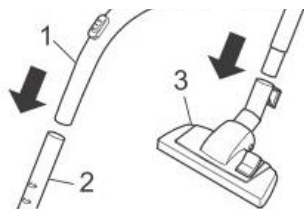
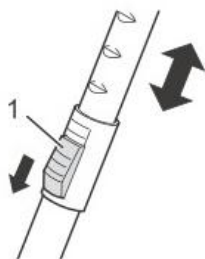

Fig.3
Fig.4
2. Insert the handle (Fig. 3/1) into the upper end of the telescopic tube (Fig. 3/2).
3. Attach the floor nozzle (Fig. 3/3) to the bottom end of the telescopic tube (Fig. 3/4).
4. Adjust the length of the telescoping tube. Press down the release latch on the tube to (Fig. 4/1) do this. Then pull the handle of the telescopic tube to extend (Fig. 3/1) it to your desired length. Let go of the release catch while pulling until it locks in place. You will hear a distinct click.